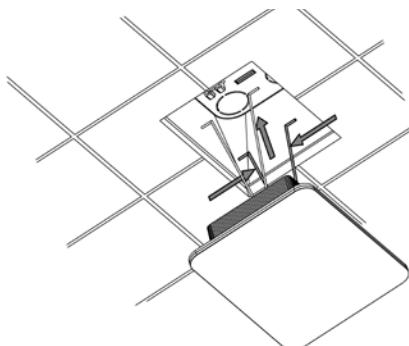

Figure 13
4. Squeeze the retention springs on the back of the fixture and fit them into the junction box (**Figure 13**). Insert the fixture into the junction box and affix it to the ceiling, being careful not to pinch the pigtail/control cable/duo cable (note that the pigtail/control cable/duo cable is not shown in **Figure 13**). Press firmly around edges of the fixture to ensure adhesion to ceiling.